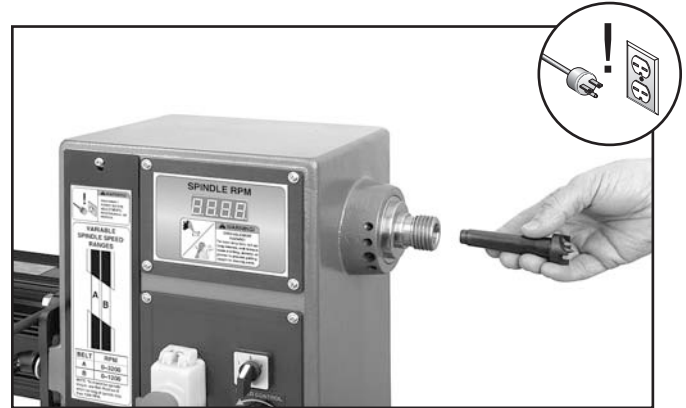

Figure 22. Installing center into the headstock spindle.
3. Insert the tapered end of the center into the spindle, and push it in with a quick, firm motion, as shown in **Figure 22**.